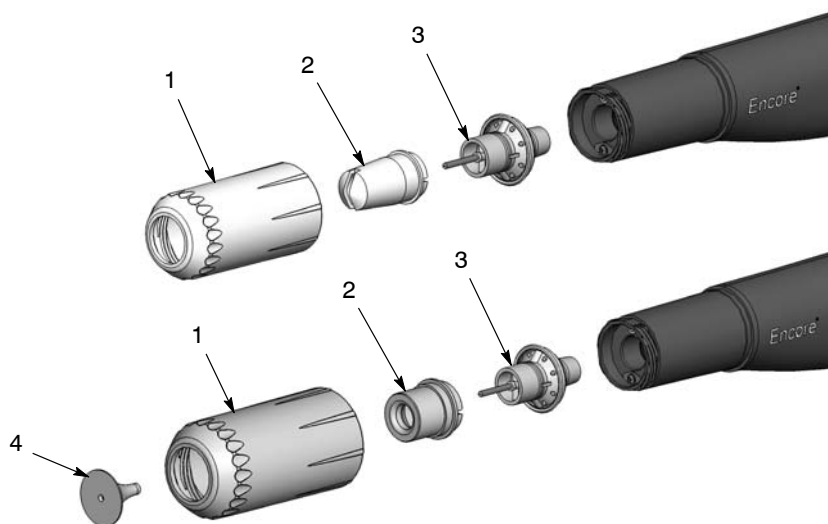

Figure 3 Removing Flat or Conical Nozzles from the Spray Gun
2. See Figure 3. If using a conical nozzle, first remove the deflector (4). Unscrew the nozzle nut (1) and remove it. Next, remove the nozzle (2) and the electrode holder (3) from the spray gun.